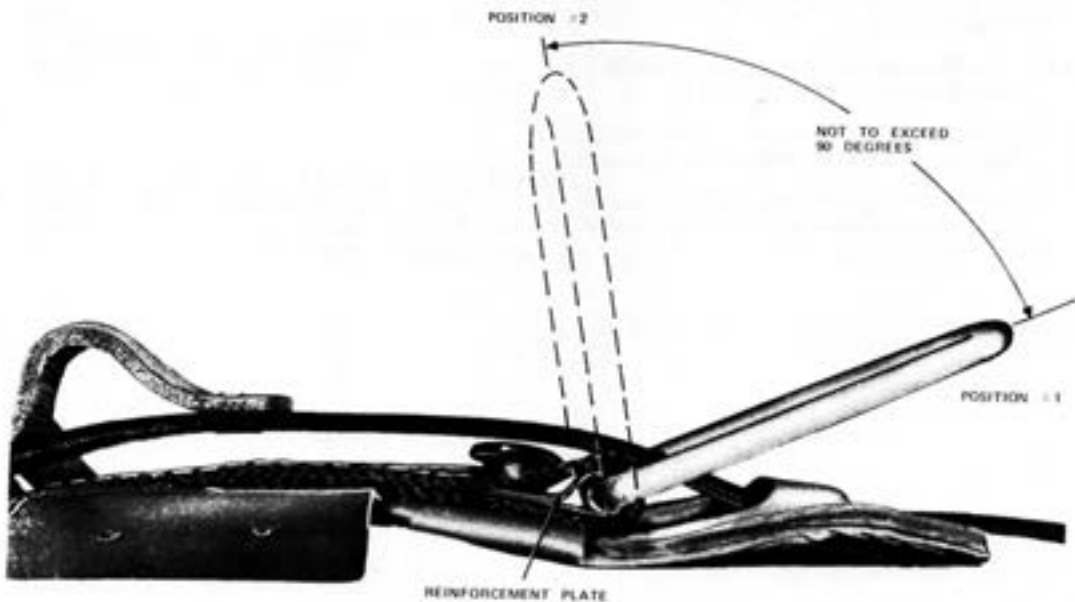

Fig. 6—Checking for Worn or Broken Reinforcement Plates
- (a) Badly worn or broken reinforcement plates which hold the Dee ring. To check for this condition, refer to Fig. 6 and move the Dee ring from Position 1 to Position 2, using light finger pressure. The rotation of the Dee ring shall not exceed 90 degrees.